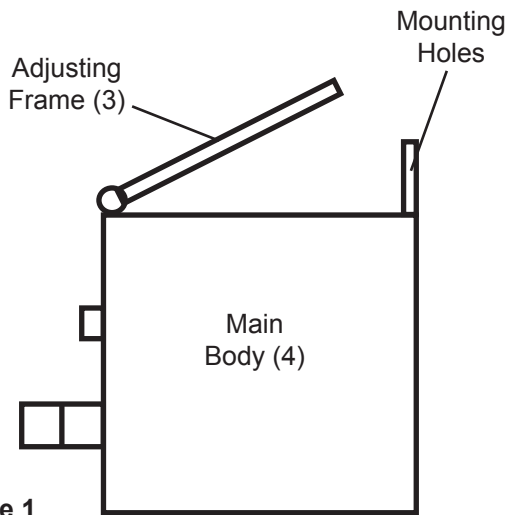

Figure 1
1. **CAUTION!** Before mounting, verify Power Switch (5) is in the OFF position.
2. To mount Solar Fence Controller onto a **wood surface**, place the Fence Control against the desired location on the wood surface. Use the two mounting holes located at the top of the Main Body (4) as a template with which to mark two holes to be drilled into the wood surface. Set aside the Solar Fence Controller, and drill the two holes in the wood surface. Use two wood screws (not included) of appropriate diameter and length to secure the Solar Fence Controller to the wood surface. See Figure 1, below.